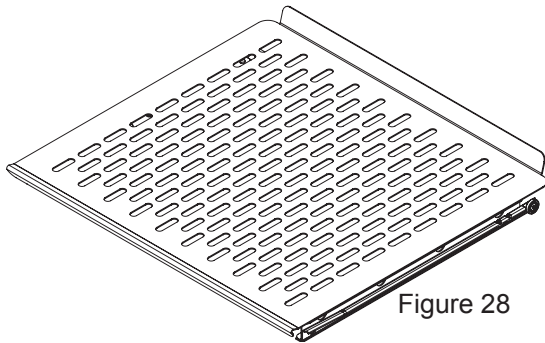

Figure 28
- (1) Roller glide full width flow thru shelf, Figure 28.